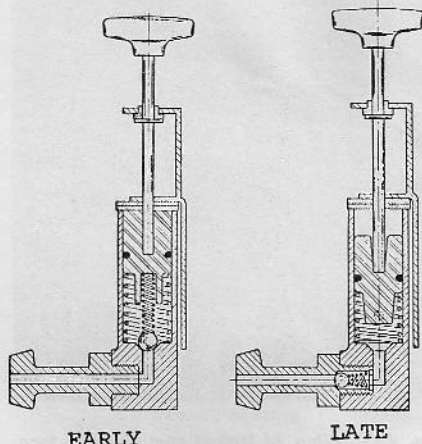
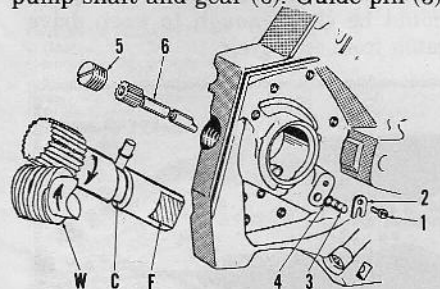

Fig. PR5-6—Cross section of early and late type manual oiler pumps. Most saws are equipped with late type.
Fig. PR5-7—Exploded view of the automatic chain oiler pump. Pump shaft and gear (6) is turned by a worm gear on crankshaft.
Oil reservoir should be filled with Pioneer Chain Oil winter or summer grade, or if not available, a good grade SAE 10 to SAE 40 motor oil depending upon prevailing temperature. All models are equipped with a manual chain oiler pump (Fig. PR5-5). Some early pumps were equipped with inlet check valve as shown at (5). Most pumps use special inlet check valve fitting (3). Both early and late pumps are shown in Fig. PR5-6. The automatic chain oiler pump used on some models is shown in Fig. PR5-7. Remove automatic oiler parts in sequence shown.
CRANKCASE AND CRANKSHAFT. The crankshaft can be removed from all models after removing the cylinder, piston, rod, flywheel, magneto, fuel tank, chain drive clutch and the main bearing carrier assembly. Automatic chain oiler pump (Fig. PR5-7) must be removed from models so equipped before removing the main bearing carrier.